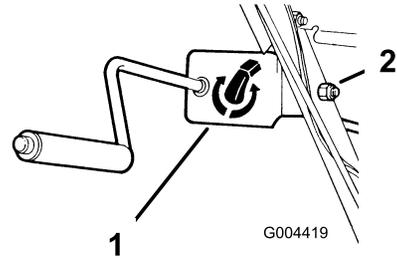

Figure 10
- Assemble the chute control bracket and rod to the left side of the handle with the bolt and the locknut as shown in Figure 10.
- Tighten the locknut that secures the chute control bracket (Figure 10).